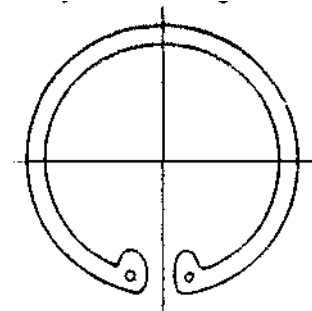

Fig.4.3.
6. The circlip shown in Fig. 4.3 is